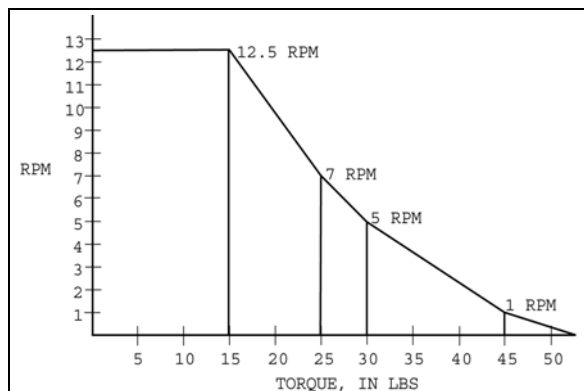

Figure 25. Speed/Torque Curve.
12. Set motor speed by adjusting motor speed pot on lower board. Set for approximately 10 RPM (Figure 25).